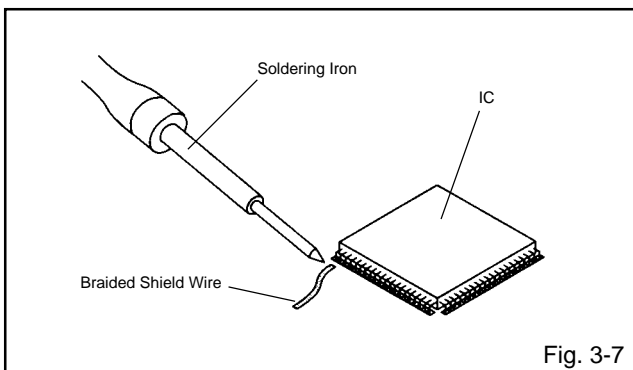

Fig. 3-7
3. Absorb the solder left on the lead using the Braided Shield Wire. (Refer to Fig. 3-7.)